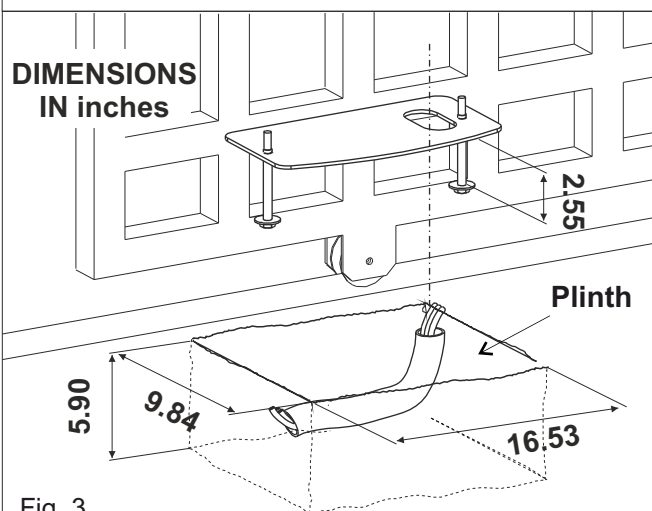

Fig. 3
2.1. Prepare a concrete basement according to the dimensions shown in Fig. 3; The foundation plate and the anchor bolts must be concreted inside the basement